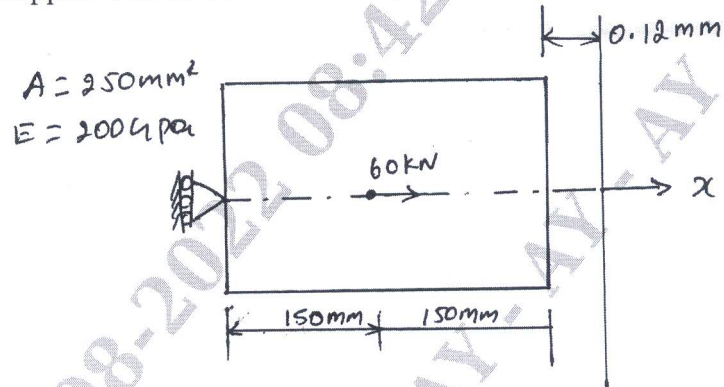

Fig. Q10 (b)
- b. Consider the bar shown in Fig.Q10 (b). An axial load  $P = 60 \times 10^3 \text{ N}$  is applied at its mid point using penalty method of handling boundary condition determine the nodal displacement and support reactions. (12 Marks)